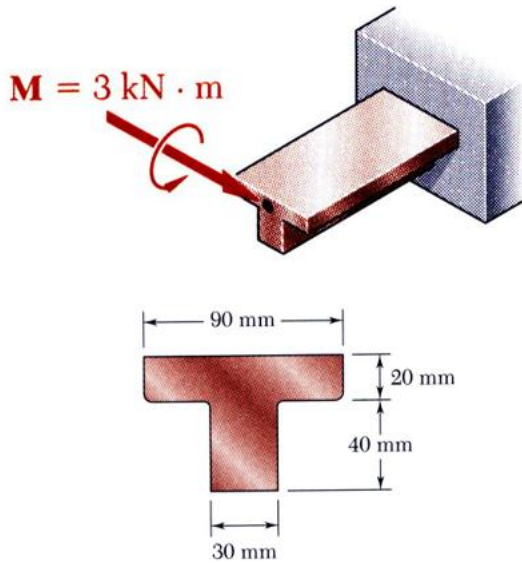

Fig 4
- b. A cast-iron machine part is acted upon by the 3 kN.m couple shown in Fig 4. Knowing that  $E = 65 \text{ GPa}$  and neglecting the effect of fillets, determine: (i) the maximum tensile and compressive stresses in the casting. [10]